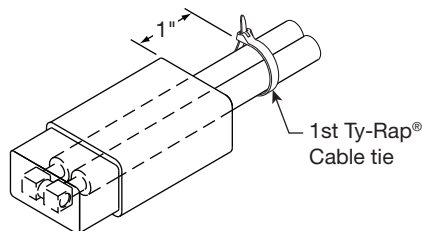

FIGURE 2
STEP 4 It is very important that the connector is properly seated by fully inserting motor disconnects to the bottom of the boot. (FIGURE 2)
STEP 5 Wrap 1st Ty-Rap® cable tie around the cables about one inch above boot, do not tighten (FIGURE 2).